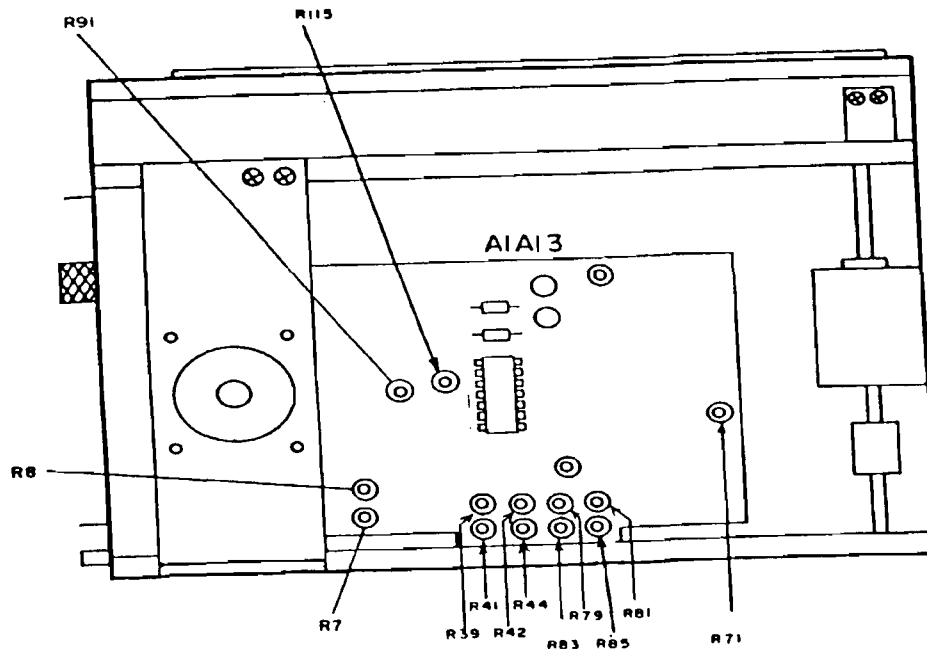

Figure 5. Test instrument - right view.
(1) Adjust A1A13R44 (fig. 5) for an oscilloscope indication of -10 kHz (R).
(2) Adjust A1A13R39 (fig. 5) until **FREQ ERROR** meter indicates 10 kHz (R).
(3) Adjust A1A13R44 (fig. 5) for best in-tolerance condition while repeating **a** (1) through (7) above (R).
(4) Adjust A1A13R41 (fig. 5) until **FREQ ERROR** meter indicates 4 kHz (R).
(5) Adjust A1A13R42 (fig. 5) until **FREQ ERROR** meter indicates 1 kHz (R).
(6) Adjust signal generator amplitude for -107 dBm.
(7) Set **RCVR WIDE-MID-NARROW** switch to **WIDE**.
(8) Adjust A1A13R7 (fig. 5) until **INPUT LEVEL** lamp (front panel) just illuminates (R).
(9) Set **RCVR WIDE-MID-NARROW** switch to **NARROW**. Adjust A1A13R8 (fig. 5) until **INPUT LEVEL** lamp just illuminate (R).
(10) Set **DEV-PWR** switch to **SIG**. Adjust signal generator amplitude to -25 dBm. Adjust A1A13R91 (fig. 5) until **DEVIATION/WATTS** meter indicates FS (R).
(11) Repeat (6) through (10) above as necessary.
(1) Adjust A1A13R71 (fig. 5) until **DEVIATION (kHz)** meter indicates zero (R).
(2) Set **GEN-RCVR** switch to **GEN** and adjust A1A13R81 (fig. 5) until **DEVIATION (kHz)** meter indicates zero (R). Set **RCVR-GEN** switch to **RCVR**.
(3) Repeat (1) and (2) above as necessary.
(4) Adjust **VAR** control until measuring receiver indicates **2 kHz**. Adjust A1A13R85 (fig. 5) until **DEVIATION (kHz)** meter indicates **2 kHz** (R).
(5) Adjust **VAR** control until measuring receiver indicates 6 kHz. Adjust A1A13R83 (fig. 5) until **DEVIATION (kHz)** meter indicates **6 kHz** (R).
(6) Adjust **VAR** control until measuring receiver indicates 20 kHz. Adjust A1A13R79 (fig. 5) until **DEVIATION (kHz)** meter indicates **20 kHz** (R).